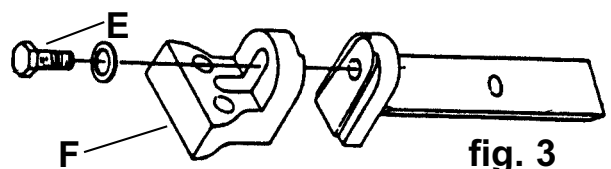

fig. 3
- 5.3.2. Loosen hex bolt (fig.3.E) and pivot blade adjustment bracket (fig.3.F) until blade is perpendicular to vice bed (49). Retighten hex. bolt.